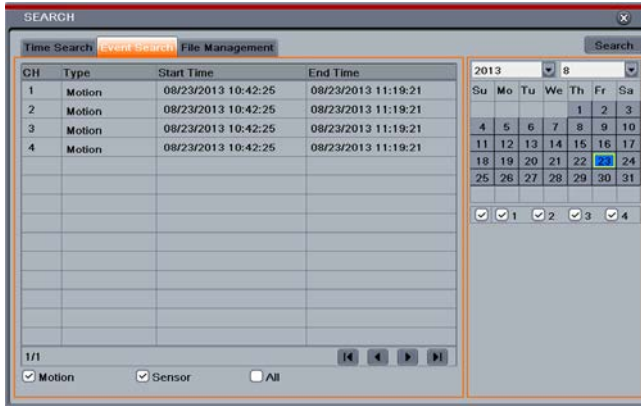

Fig 6-2 Search Configuration-Event Search
Step 1: Enter into Menu→Search→Event Search button. Refer to Fig 6-2: